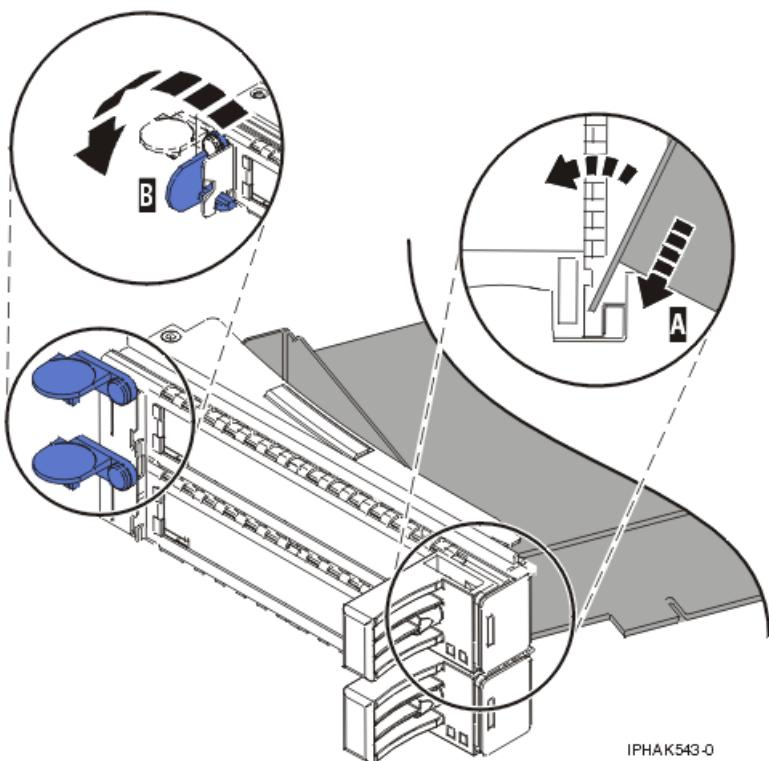

Figure 45. Adapter replaced in the PCI adapter cassette
- a. With the tailstock clamp in the open position, insert the adapter firmly into the tailstock retaining channel **A**. See Figure 45 on page 62.
- d. Position the adapter retainers to support the adapter, and then rotate the retainer clip **B** into the closed position. See Figure 45.